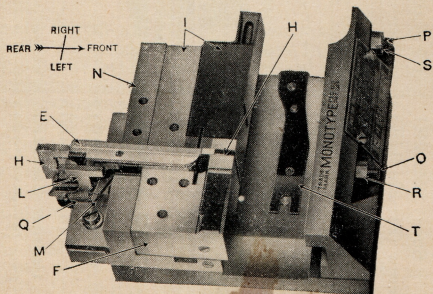

FIGURE 3.
Put the top MOLD BLADE (E) in position on the MOLD-BLADE CARRIER (L). To do this pull the CARRIER (L) to the rear just far enough so that the top MOLD BLADE (E) can be positioned between the TYPE BLOCKS (F) and (I) as shown in Fig. 3. Then keeping the BLADE parallel with the TYPE BLOCKS and with its front end resting on the bottom BLADE slide the top BLADE forward until the slot in the top BLADE slips over the projection on the top of the CARRIER (L).